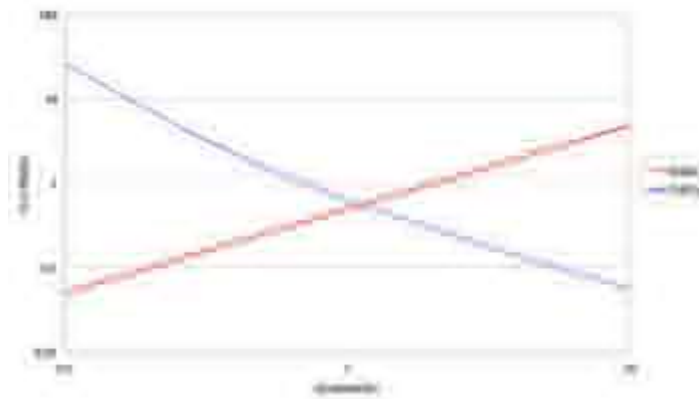

Figure 3: Once you pick LO and Co, choose CD and RD from maximum allowable source impedance.
Figure 3 can be quite useful in selecting the damping components. This chart was prepared using the closed form solution developed by RD Middlebrook. The abscissa is the ratio of the damped filter output impedance to the characteristic impedance of the undamped filter ($Z_O = (L_O/C_O)^{1/2}$). There are two ordinate values: the ratio of damping capacitor to filter capacitor (N); and the ratio of the damping resistor to the characteristic impedance. To use this chart, first pick LO